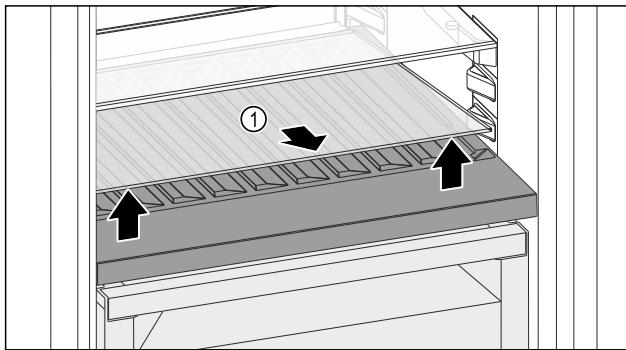

Fig. 149
- ▶ Lift the glass shelf Fig. 149 (1) at the front and remove.
- ▶ Store the glass shelf Fig. 149 (1) in a safe place outside the appliance.